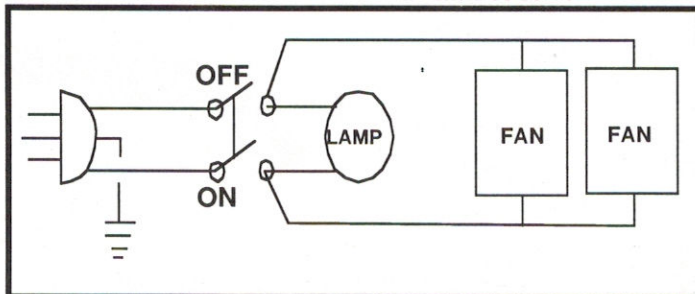

FIG. 1
- **Schematic:** Shown below in Fig. 1 is the wiring diagram for the spotlight to aid in locating electrical problems. Refer to the table below to aid in trouble-shooting.